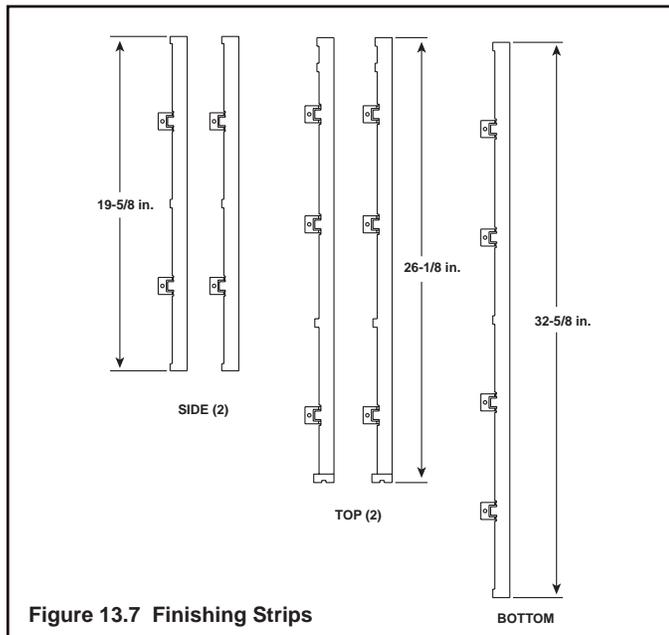

Figure 13.7 Finishing Strips
1. See Figure 13.7 to identify top strips.